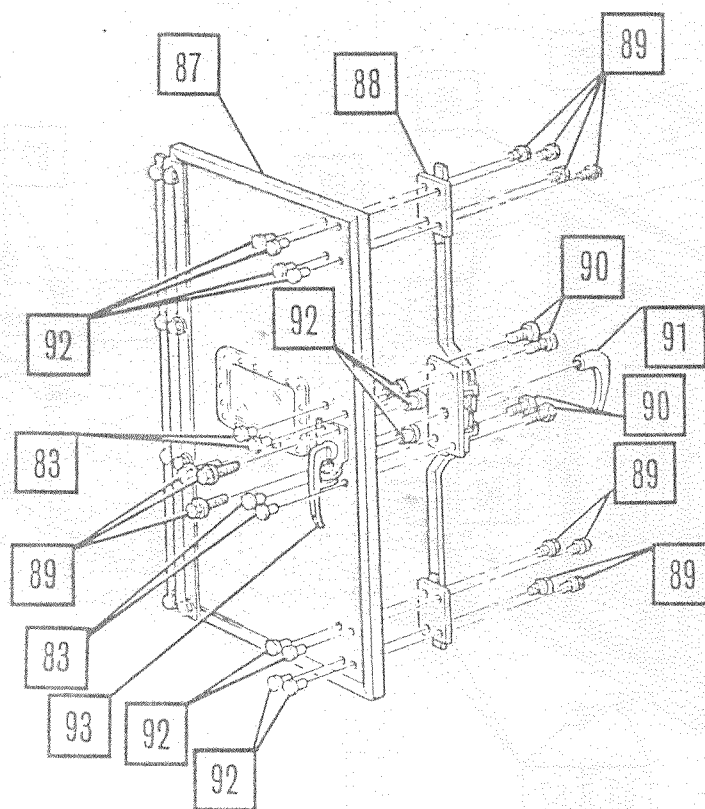

Figure 23.
78. Assemble outside latch assembly to door with "T" nuts and bolts (Figure 23.). Tighten bolts to 22-27 lb.-in. (2.5-3.0 Nm).
79. Assemble inside latch handle assembly to door and assemble with "T" nuts and bolts (Figure 23.). Tighten to 25-31 lb.-in. (2.8-3.5 Nm). Assemble top and bottom latches with "T" nut and tighten to 22-27 lb.-in. (2.5-3.0 Nm).
80. Assemble inside handle to latch assembly (Figure 23.).